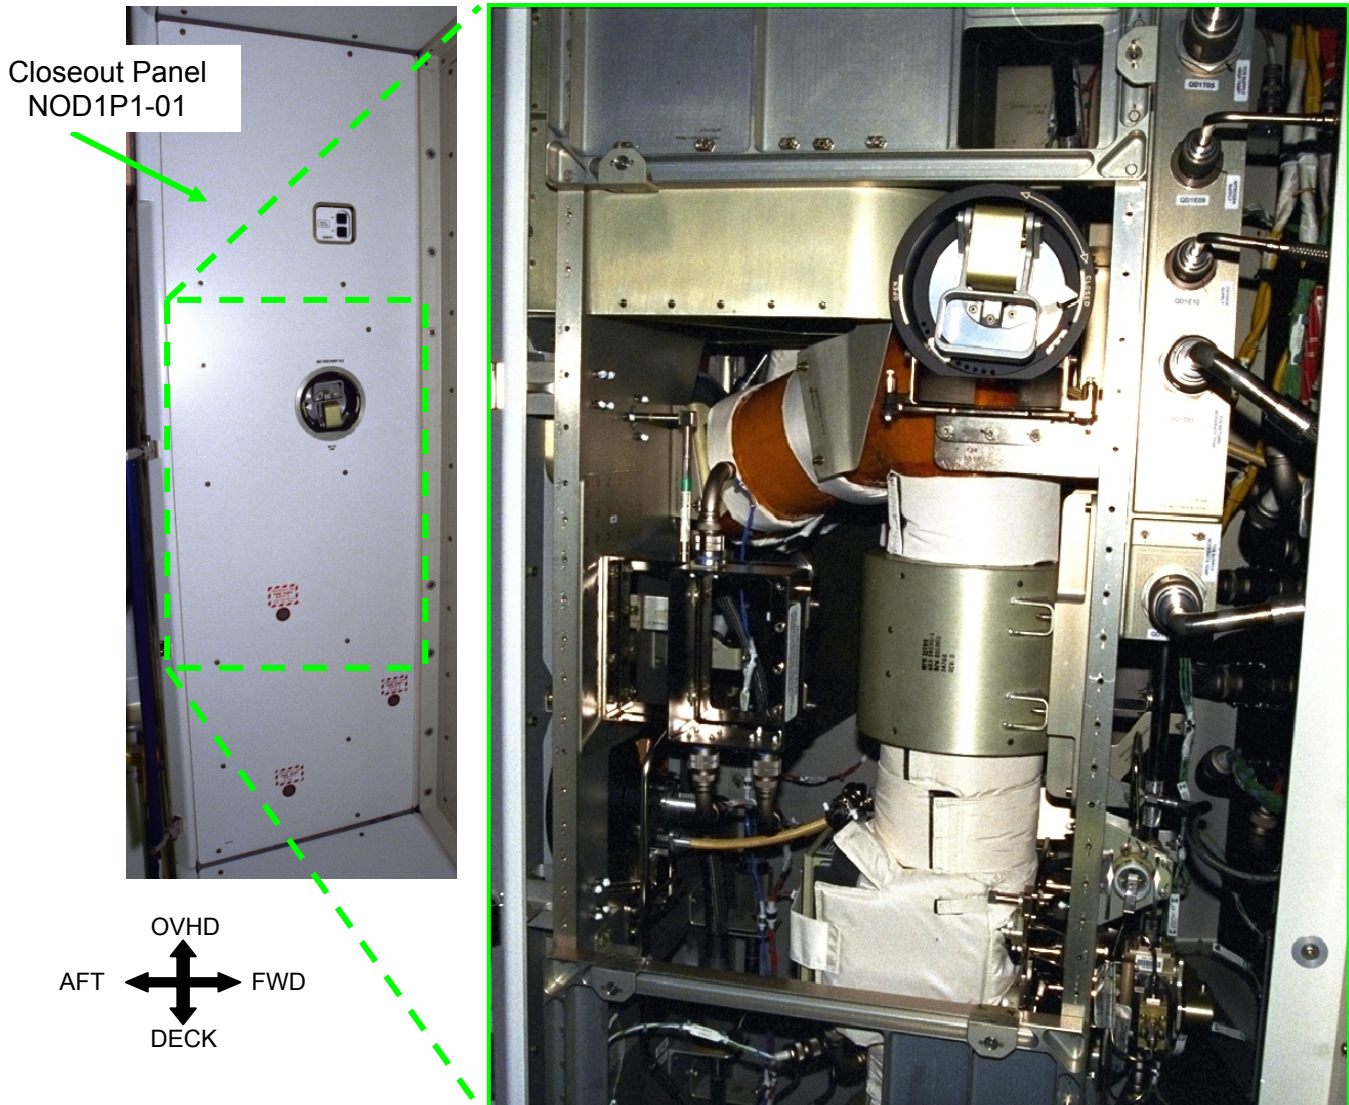

Figure 14.- Node 1 Port Alcove.
- 25.1 Remove Closeout Panel NOD1P1-01, fasteners (twelve) (Ratchet, 3/8" Drive; 5/32" Hex Head, 3/8" Drive). Refer to Figure 14.
1. Refer to Figures 14 and 15 for step 26.